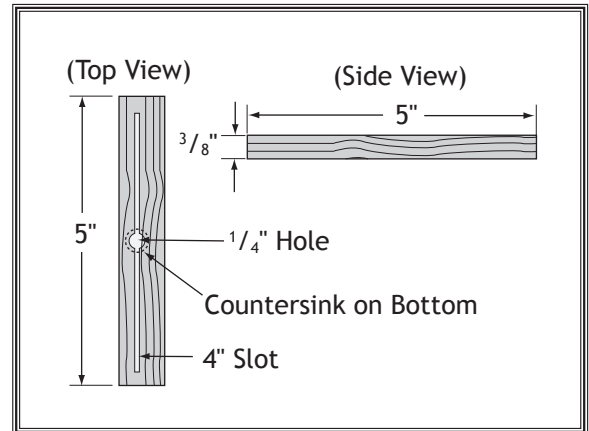

Figure 98. Patterns for featherboard miter bar.
5. Cut a miter bar that will fit in the table miter slot approximately 5" long (see **Figure 98**).